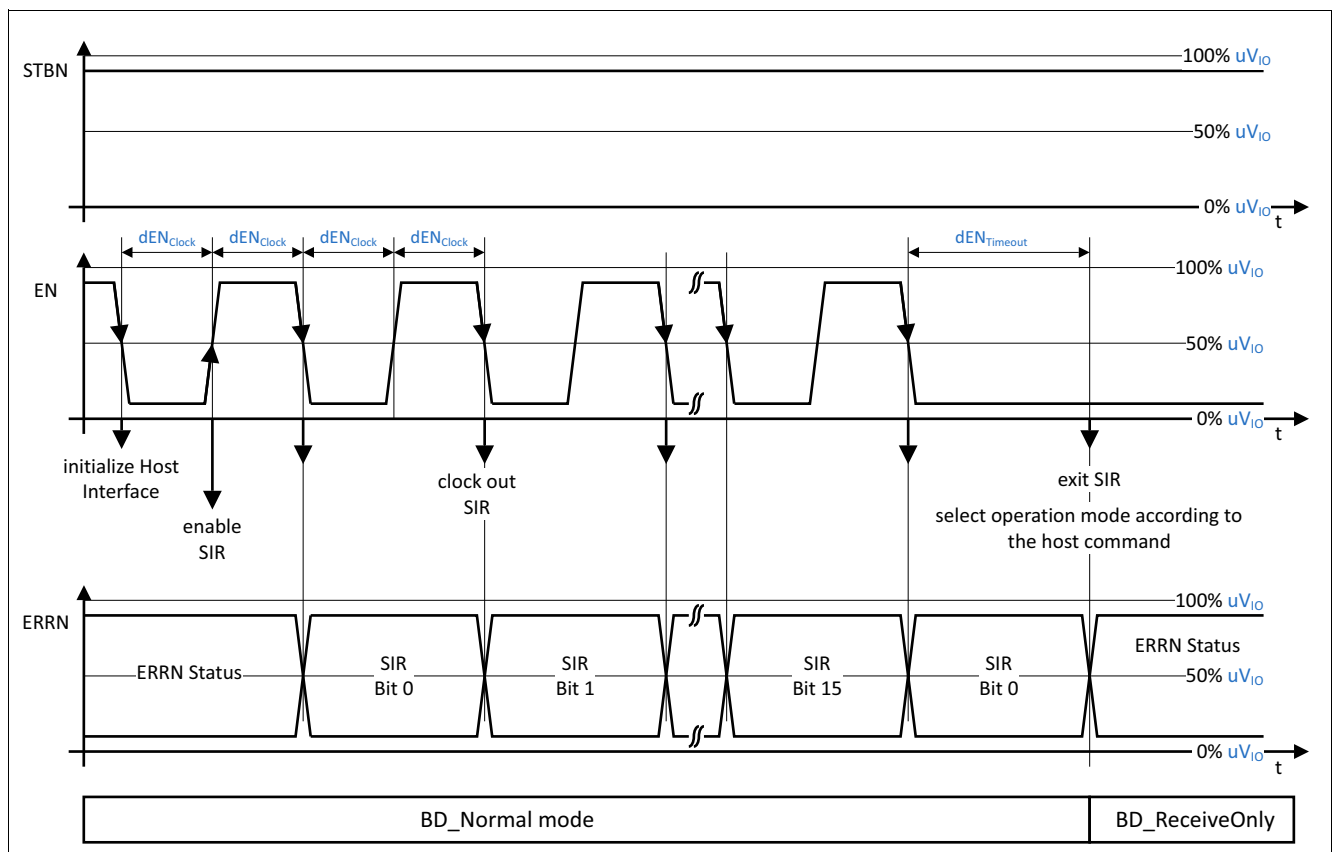
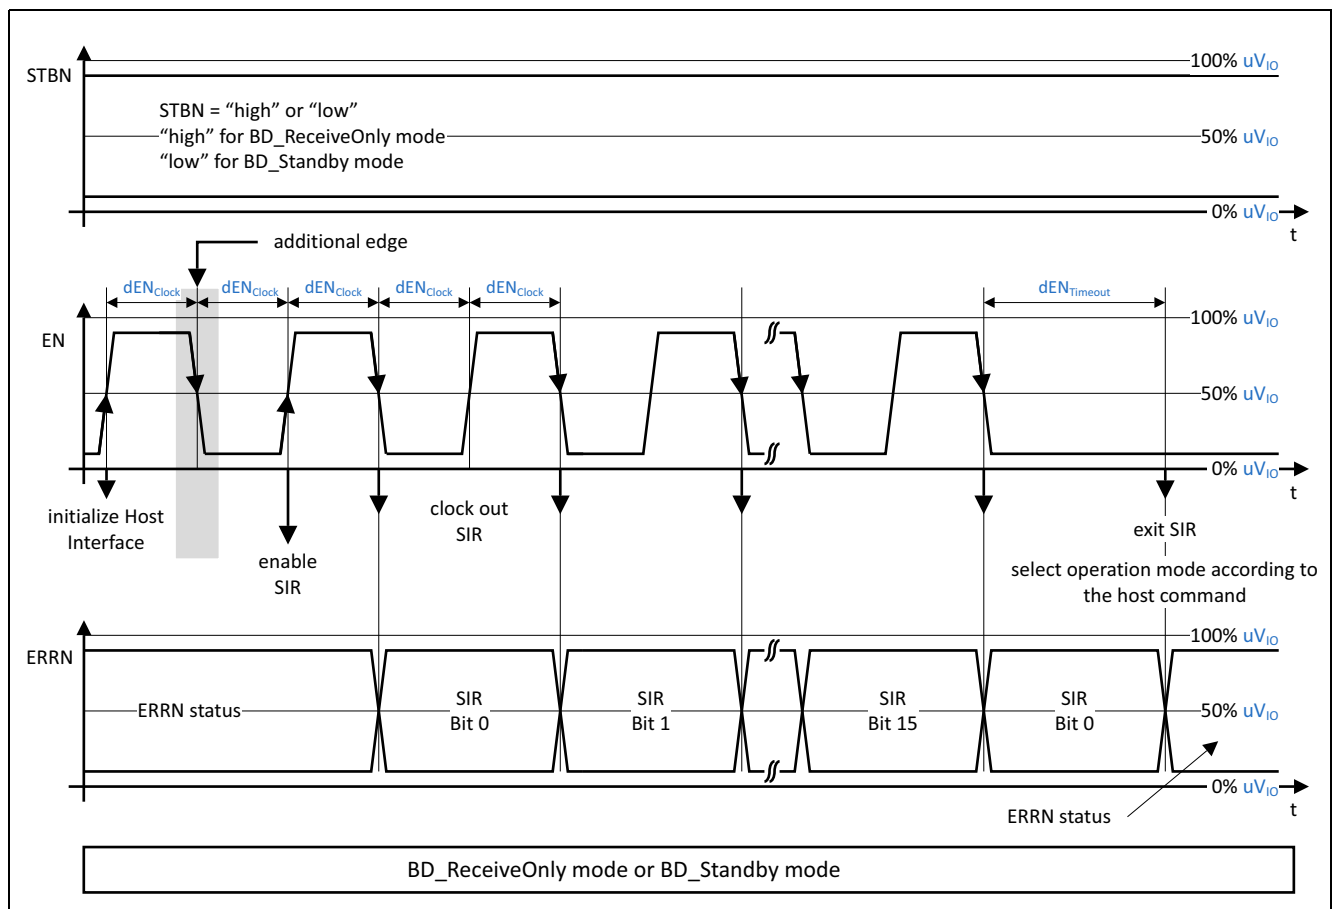

Figure 5 Timing diagram for the SIR readout in BD_Normal mode
Figure 6 SIR readout in BD_ReceiveOnly or BD_Standby mode
During the SIR readout, the EN input acts as the clock and the ERRN output pin acts as the serial “data_out”. Irrespective of the digital signal at the STBN input, the SIR readout is always initialized by a signal change at the EN input pin. When the host command BD_Normal is applied to the Host Interface, the SIR read-out starts with the falling edge at the EN input (see Figure 5). For the host commands BD_Standby and BD_ReceiveOnly the read-out starts with the rising edge at the EN pin (see Figure 6).
- 1) While the TLE9221SX is in BD_Normal mode, the rising edge is the first signal change after initialization and enables the SIR readout. For the BD_ReceiveOnly and the BD_Standby mode, there is an additional falling edge between initialization and the SIR being enabled (compare with Figure 5 and Figure 6).